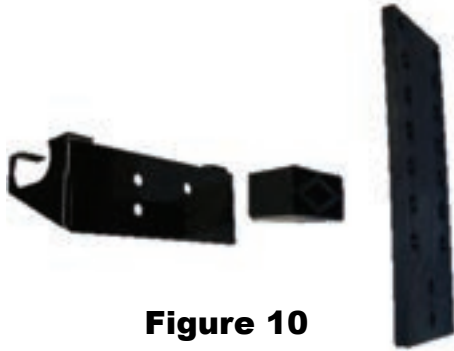
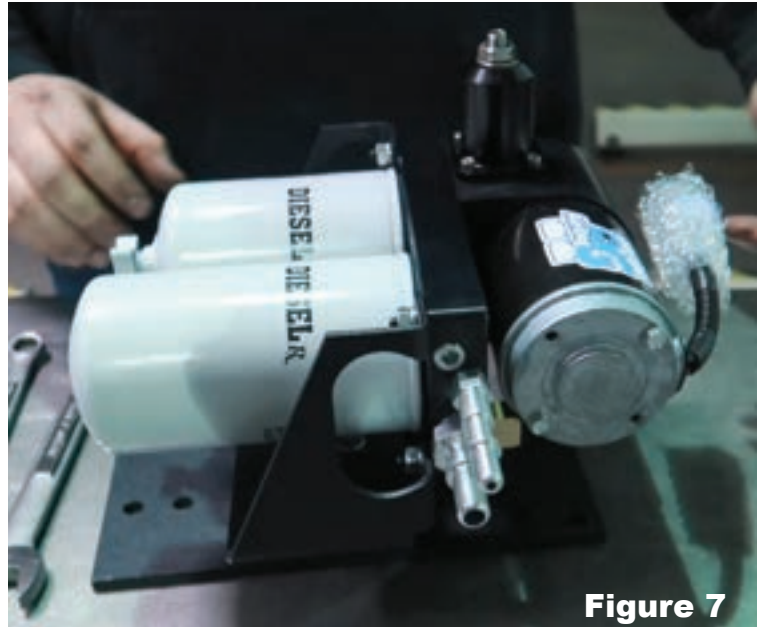

Figure 10
Figure 7
- 3-2. Assemble the AirDog® mounting bracket (001-3C-0004) to the frame bracket (010-3C-0001) using the spacer (010-3C-0003-A-P) as shown in figure 10 using the four 5/16 bolts, lock washers, and nuts included in the mounting bracket hardware kit (figure 7). Using a 3/16" Allen and a 1/2" wrench, properly torque all fasteners!